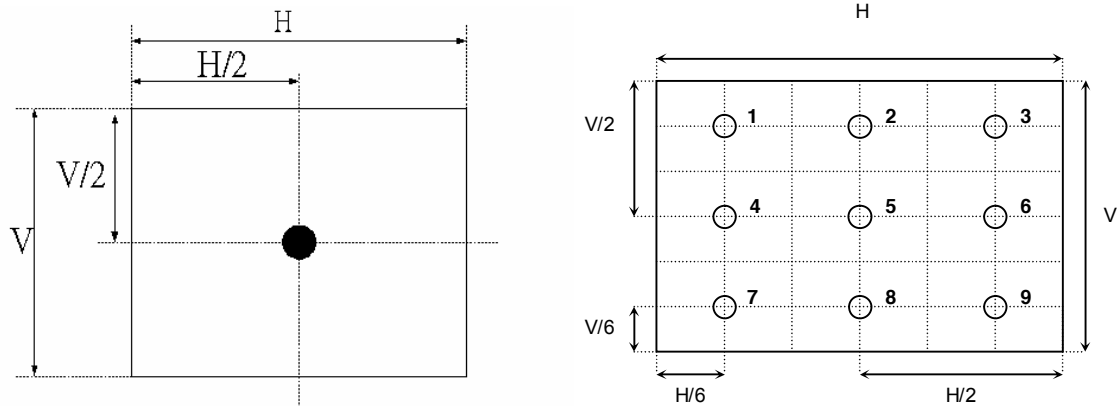

Fig.4-2 Optical measurement point
2. Surface Luminance is luminance value at point 5 across the LCD surface 50cm from the surface with all pixels displaying white. For more information see Fig. 4-2. When lamp current $I_H=11\text{mA}$, $L_{WH}=L_{on5}$, where L_{on5} is the luminance with all pixels displaying white at center 5 location.